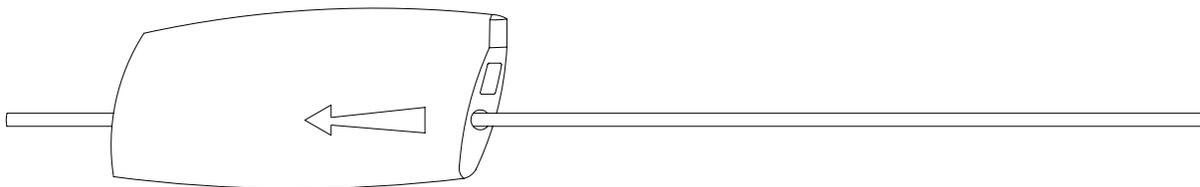

Figure 3
3. Route the bare end of the main support cable through the included clamp, then around the mounting structure, and back through the clamp. (Figures 3 and 4)
5. Route the bare end of the safety cable through the included clamp, then around a suitable support structure, and back through the clamp. (Figures 3 and 4)